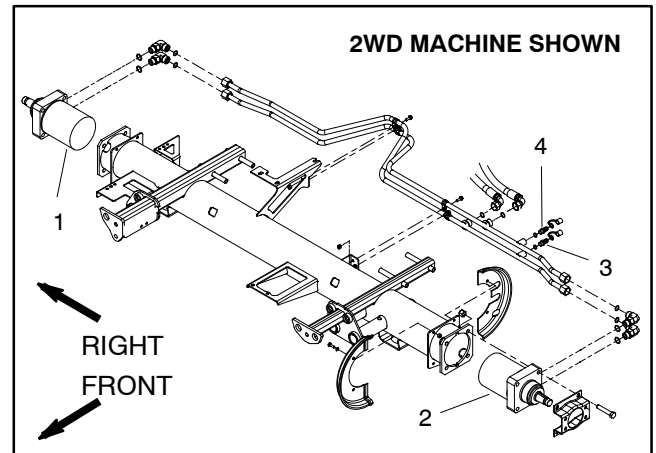

Figure 25
4. Thoroughly clean traction circuit test port on hydraulic tube for direction to be checked (Fig. 25 and 26). Connect a 5000 PSI (350 bar) pressure gauge to test port.